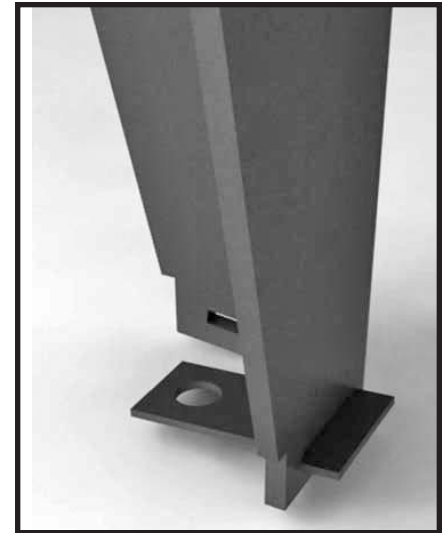

Figure 16: Anchor tabs for mobile homes.
2. The stove must be fastened to the floor of the mobile home, using lag screws. The screws can be inserted through the holes provided in the pedestal or using the Anchor Tabs with the legs (Figure 16).